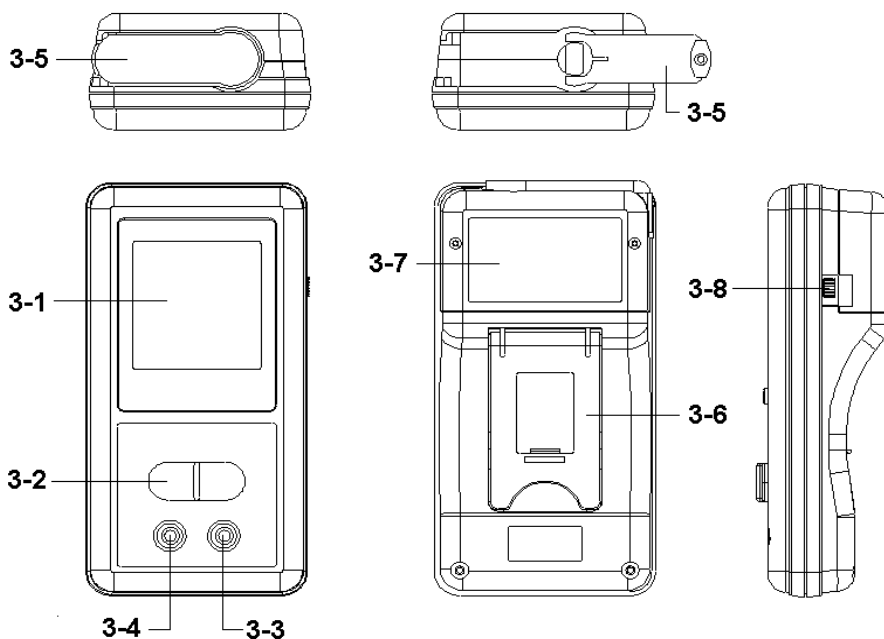

Fig. 1
- 1) Select the " Power type switch " (3-8, Fig. 1) to the " G position " (Green power position).
There is a " Power generator's handle " (3-5, Fig. 1) on the top of the housing case.
- 1) Install the " DC3V battery (CR-2032) x 2 PCs " into the " Battery compartment " (3-7, Fig. 1)
- 2) Slide the " Power type switch " (3-8, Fig. 1) to the " B " position (battery position), the meter will offer the power source from the battery.
- 1) Slide the " Function switch " (3-2, Fig. 1) to the the " V " or " Ω " position will be power On.
- 1) Connect BLACK test lead into " COM " terminal (3-4, Fig. 1).
- 2) Connect RED test lead into " V " terminal (3-3, Fig. 1).
- 3) Select the " Function switch " (3-2, Fig. 1) to the " V " position.
- 2) Connect RED test lead into " Ω " terminal (3-3, Fig. 1).
- 3) Select the " Function switch " (3-2, Fig. 1) to the " Ω " position.
- 3) Select the " Function switch " (3-2, Fig. 1) to the " $\cdot||$ " position.
- 3) Select the " Function switch " (3-2, Fig. 1) to " $\rightarrow|+$ " position.
- 3) Select the " Function switch " (3-2, Fig. 1) to the " + " position.
- 2) open the " Battery Cover " (3-7, Fig. 1) away from the instrument and remove the battery.